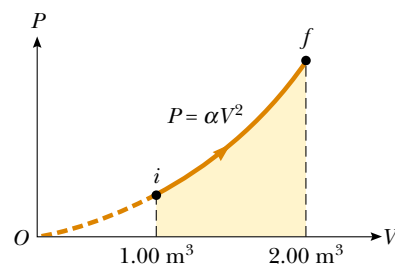

Figure P20.21
- WEB 21.** A sample of ideal gas is expanded to twice its original volume of 1.00 m^3 in a quasi-static process for which $P = \alpha V^2$, with $\alpha = 5.00 \text{ atm}/\text{m}^6$, as shown in Figure P20.21. How much work is done by the expanding gas?